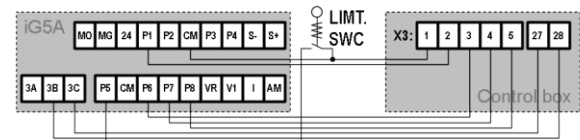

Figure 2a
- Wire the I/O terminal and the terminal X3 of the control box CG according to the **Figure 2a**